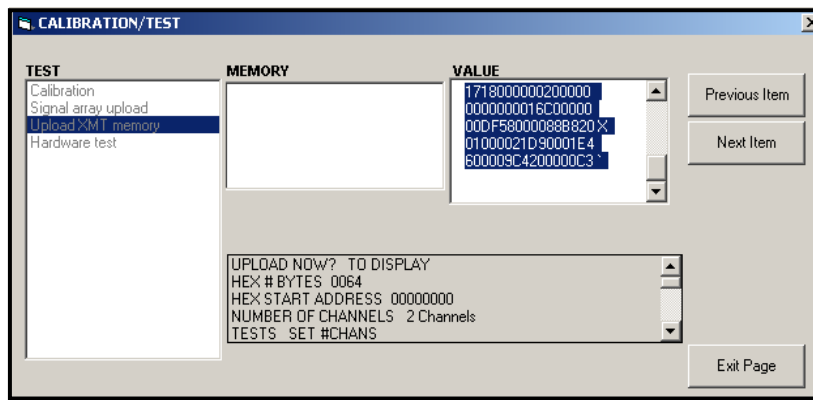

Figure 15: XMT868i Memory Data Displayed on PanaView
- If you double-click on *To Display*, the right pane of the window appears similar to *Figure 15*, and the data is available for immediate evaluation. Click **[Exit Page]** to close the window and return to the *Calibration/Test* menu.